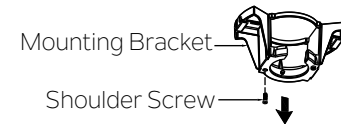

Fig. 12
**Step 1.** Remove one of the two shoulder screws in the mounting bracket. Loosen the second shoulder screw without fully removing it. (Fig. 12)